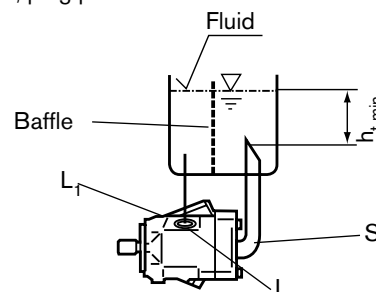

Fig. 5
b) Mounting below the reservoir: pipe ports " L_1 " and "S" acc. to fig. 5, plug port "L".